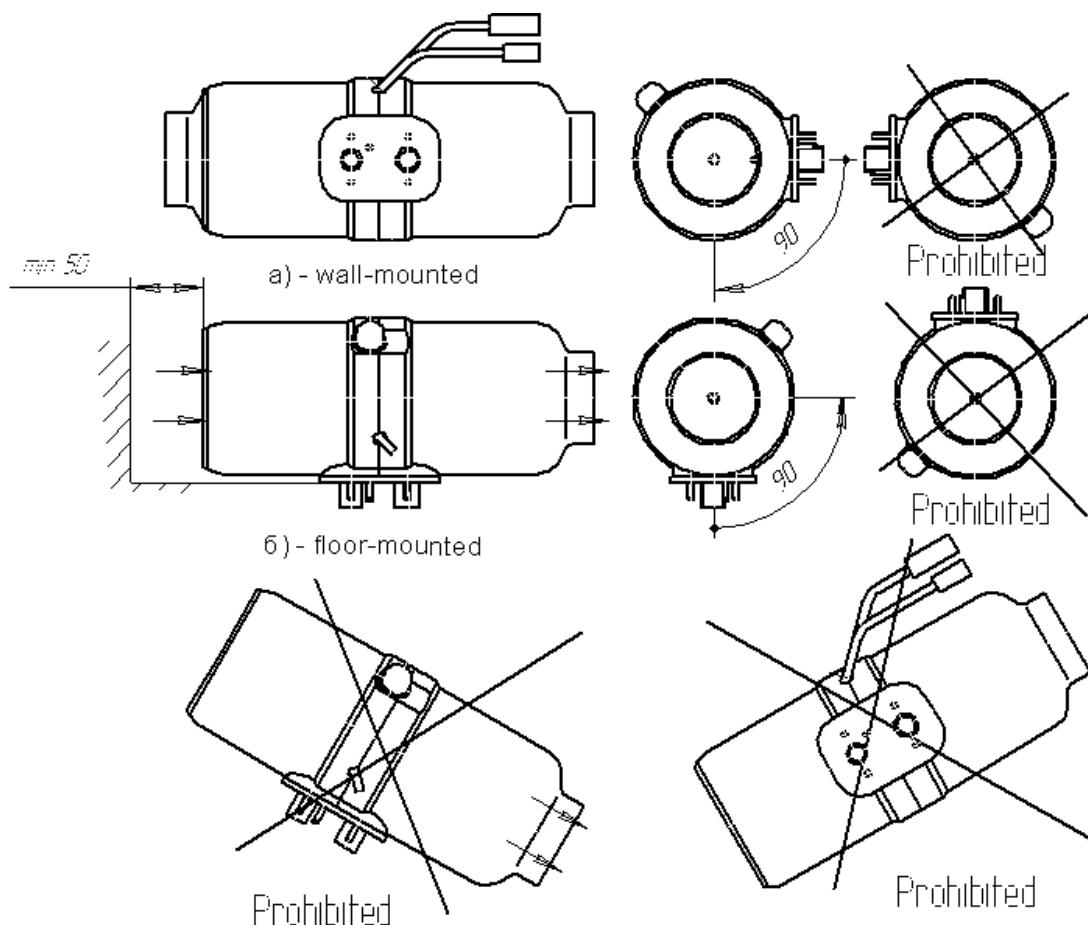
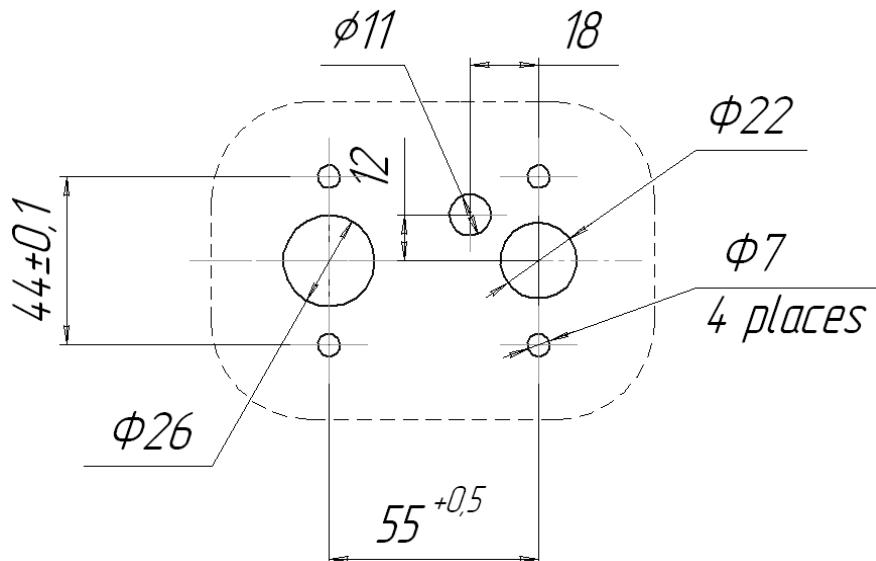

Figure 8.1 – Mounting Options
Figure 8.2— Mounting Holes Used for Heater Installation
Install the heater indoors while bearing in mind the permissible operating positions shown in Figure 8.1. and 8.1a. The figure shows the two maximum assembly positions of the heater. Positioned the heater's inlet vent in such a way to prevent absorption of vehicle/heater exhaust gas in normal operating conditions. The gap between the walls/partitions and the edge of the inlet vent shall be at least 50 mm (see Figure 8.1). The distance between the walls/partitions and the edge of the outlet vent shall be at least 150mm. When assembling or operating the heater, ensure that no foreign objects enter the inlet/outlet vents. Prior to assembly, ensure availability of spare heating plug and bear in mind dismantlement requirements, as this will permit easier maintenance in future. At installation of the heater check that its case had no contact both with a floor and with other parts of a cabin or a manned compartment. See Figure 8.2 for how to position mounting holes to install the heater into the motor vehicle casing.
**ATTENTION !! To ensure reliable performance, follow the above recommendations carefully. Install the heater horizontally with the heating plug in the up position as shown in Figure 8.1.**